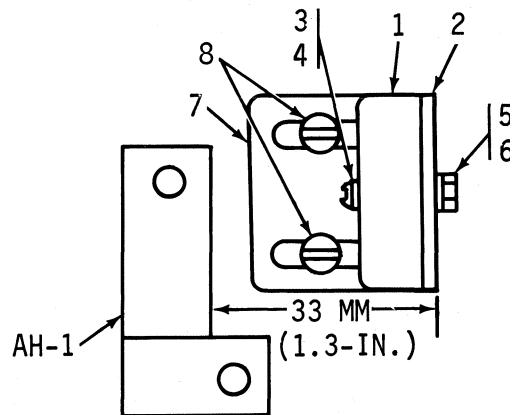

Figure 5-9. LEFT REED SWITCH (AG-1) STATIC-ADJUSTMENT
A. Left Reed Switch - Static Adjustment (See Fig. 5-9)